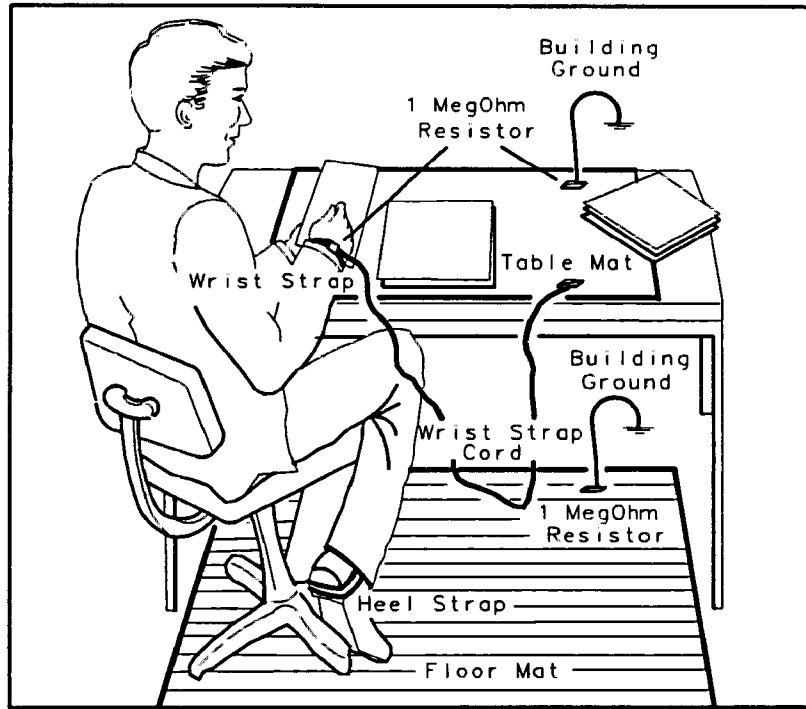

Figure 1-2. Example of a Static-Safe Work Station
Figure 1-2 shows an example of a static-safe work station. Two types of ESD protection are shown: (1) conductive table mat and wrist strap combination, and (2) conductive floor mat and heel strap combination. The two types *must* be used together to ensure adequate ESD protection. Refer to Table 1-2 for a list of static-safe accessories and their part numbers.